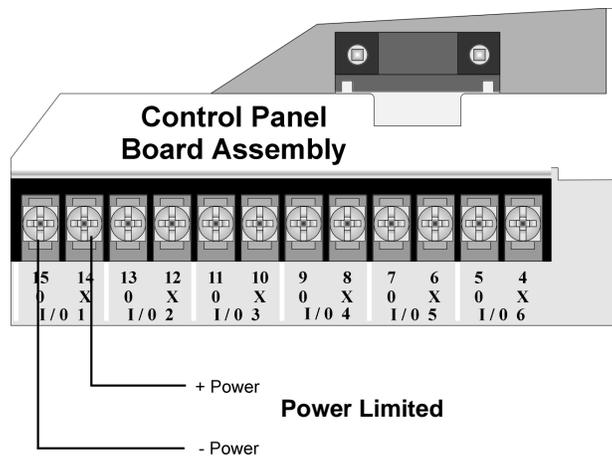

Figure 5-13 Flexput Auxiliary Power Output
1. Wire the PWR terminals of the SD500-ANM to the Flexput terminals using “X” terminals as positive and “O” terminals as negative power. See Figure 5-13.